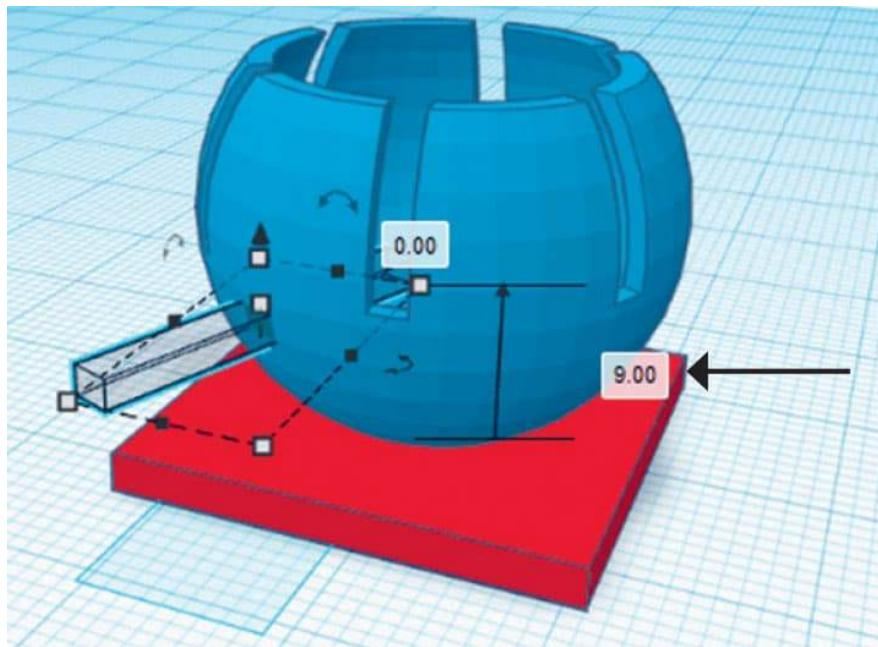
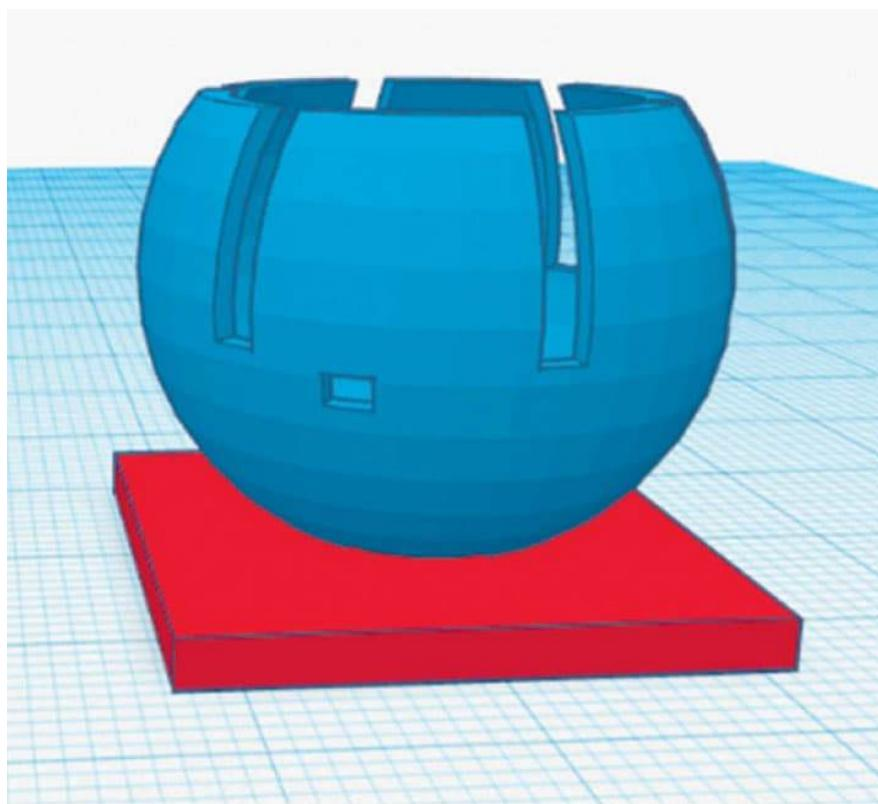

FIG. 2: Create a box-shaped hole in the socket.
FIG. 3: The completed box-shaped hole in the socket.
3. We will now create a keyhole so we can lock the holder in a vertical position. Create a $2\text{ mm} \times 2\text{ mm} \times 20\text{ mm}$ **Rectangular Box Hole**. Merge it with the socket at the about half the height of the socket (note the height from the workplane; see the arrow in fig. 2). **Group** the box hole with the socket to form the keyhole in the socket (fig. 3).